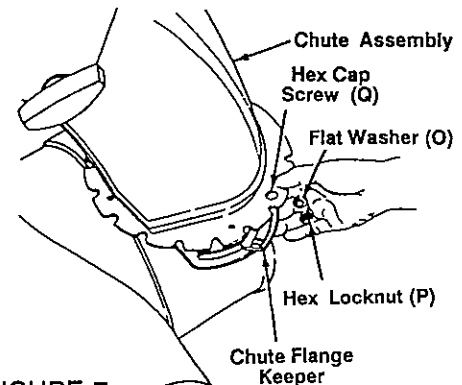

FIGURE 7
- Insert hex cap screws (Q) up through chute flange keeper and chute assembly as shown in figure 7. Secure with hex locknuts (P). Tighten with 7/16" wrenches. **Do not over tighten.**